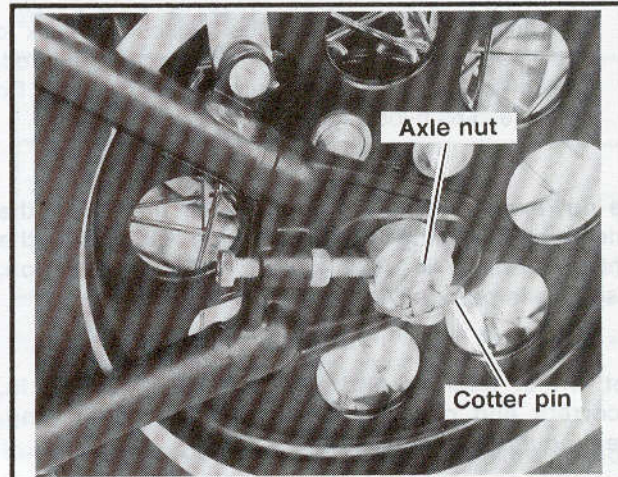

Figure 2-14. Rear Axle
REMOVAL (Figure 2-14)
11. See Figure 2-14. Install new cotter pin.